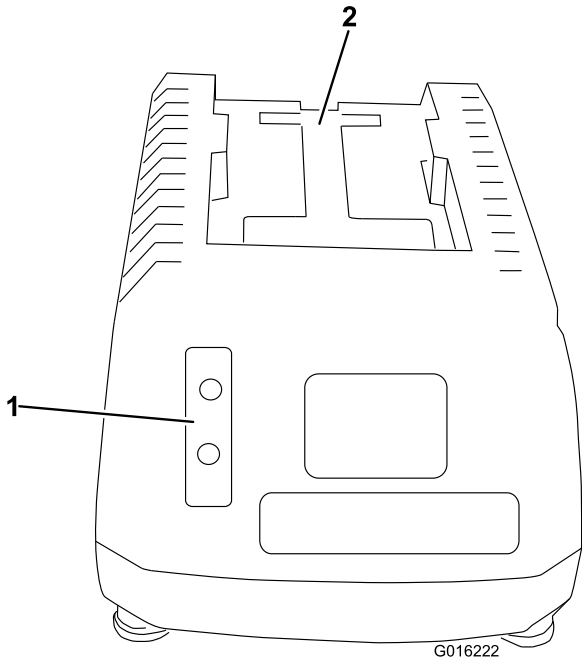
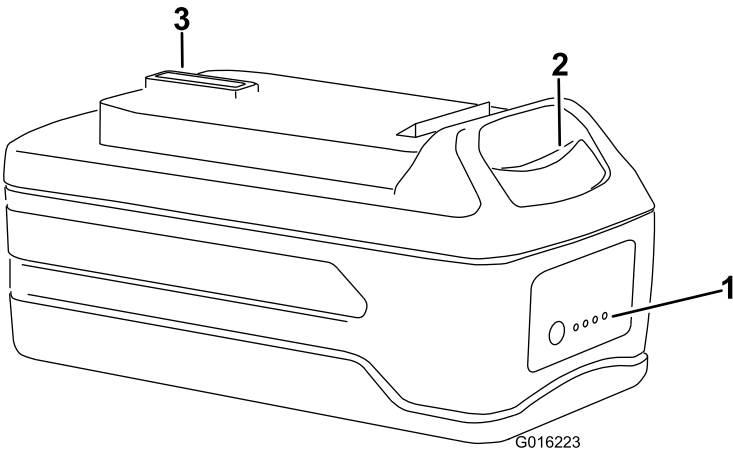

Figure 7
Figure 8
- 1. Turn the battery upside down and line up the battery terminal with the slot in the charger (Figure 7 and Figure 8).